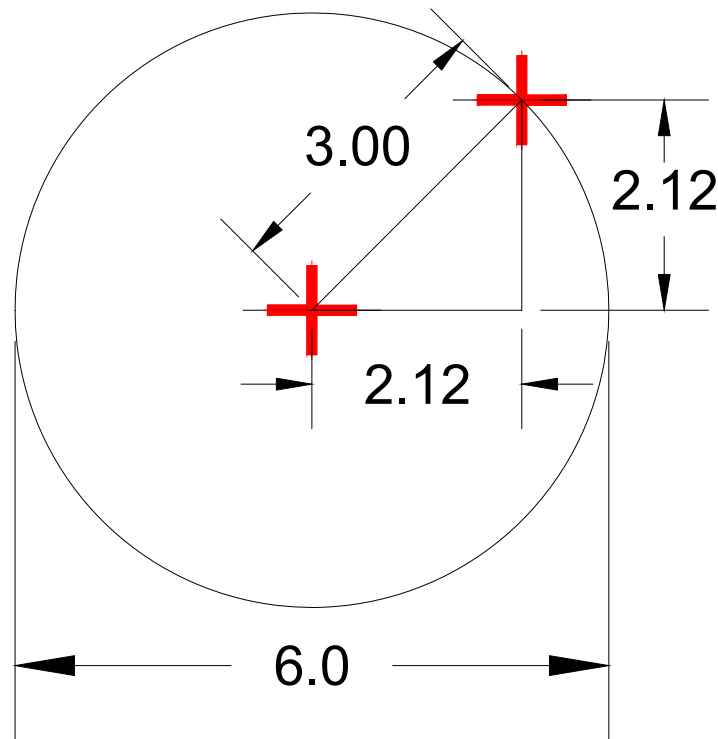

Figure 14-3: DTP Copper Features
- Features spanning < 12" shall be located within 0.006" Diameter True Position (± 0.003 " positional tolerance) of the electronically defined coordinates (cad database or Gerber). See Figure 14-3.